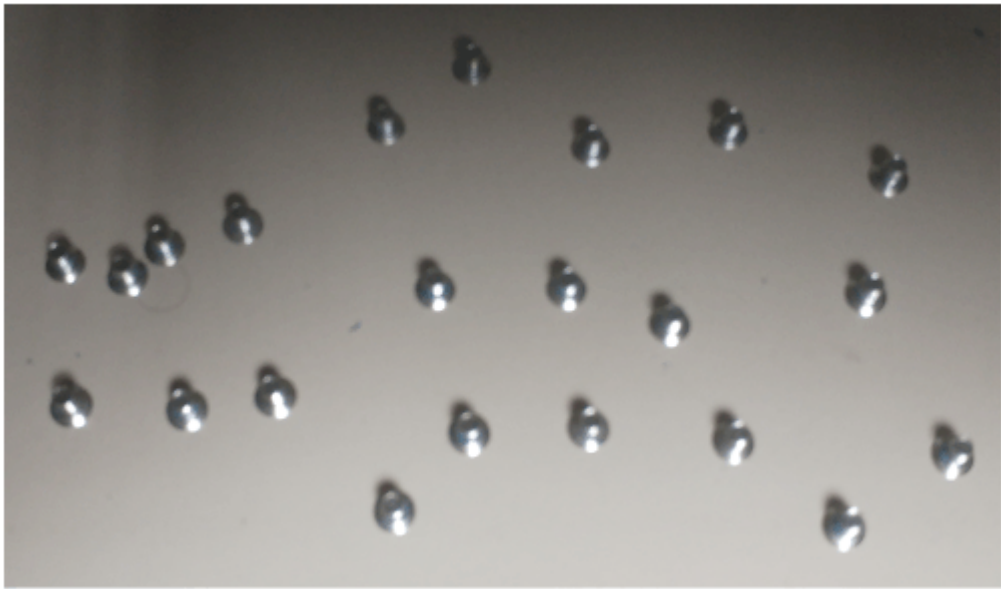

Figure 120. Midplane assembly screws
20. Unpack the replacement midplane assembly. Locate the pack of replacement screws that comes in the package. The package includes 24 screws, but only 22 screws (shown in Figure 120 on page 157) are used to secure the enclosure chassis.